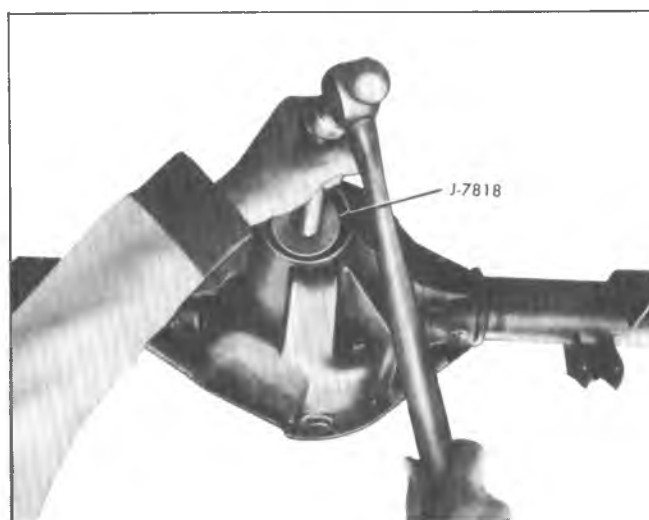

Fig. 22F—Installing Outer Pinion Bearing Cup
4. Install outer cup in carrier bore, using installer J-7818 with Drive Handle J-8092 as shown in figure 22F.